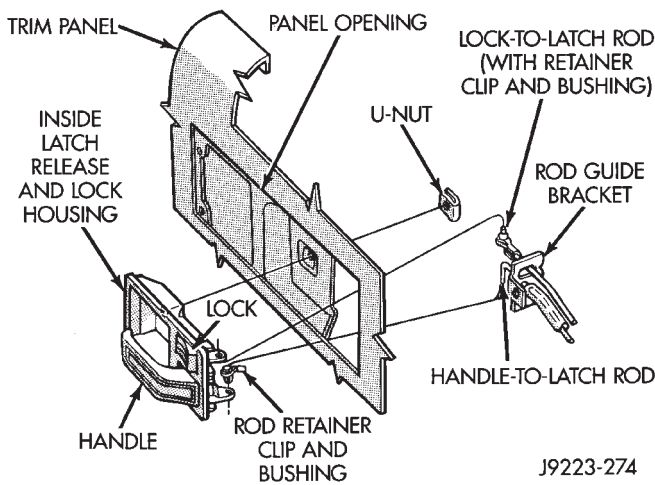
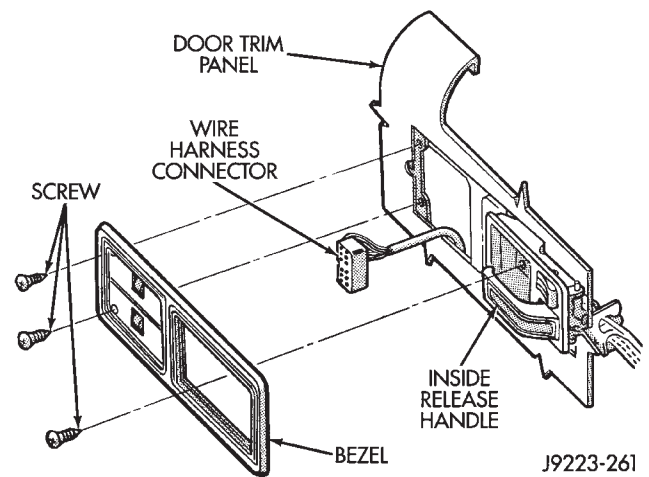
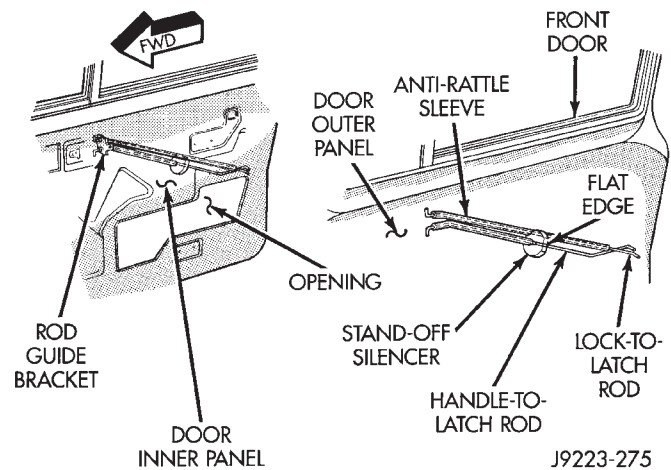

Fig. 81 Door Inside Latch Release Rods
Fig. 82 Power Switch Wire Harness Connector
Fig. 83 Front Door Rod Guide Bracket and Rods
- (2) Move the door release handle outward and disconnect the handle-to-latch rods (Fig. 81). For vehicles equipped with power door locks/windows, also disconnect the wire harness connector (Fig. 82).
- (3) Remove the door trim panel and waterdam.
- (4) Drill-out the rivet heads and remove the rod guide bracket rivets from the door inner panel (Figs. 83 and 84).
- (5) Remove the rod guide brackets and rods from the door.